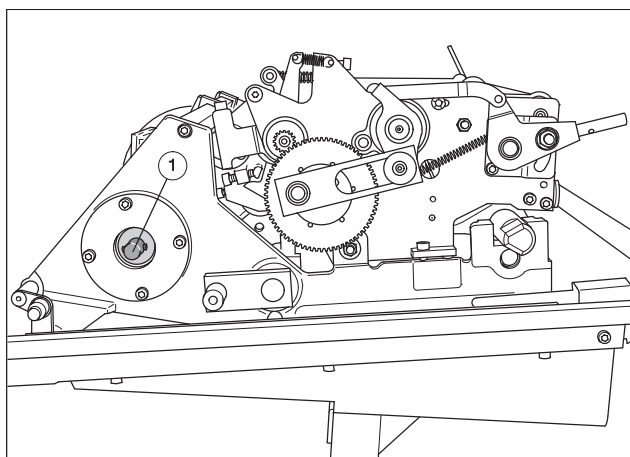

Fig. 29 Attaching the crank handle
2. Attach the delivery crank handle to the shaft on D.S. with the mounting rings (Fig. 29/1).